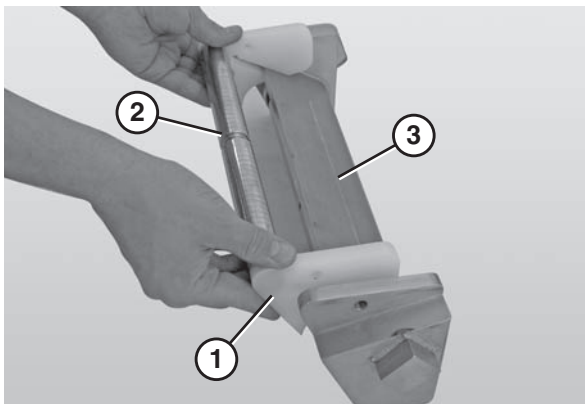

Figure 83
5. Slide the nose bar puck holders (**Figure 83, item 1**) and the nose bar spindle (**Figure 83, item 2**) off of the nose bar weldment (**Figure 83, item 3**).